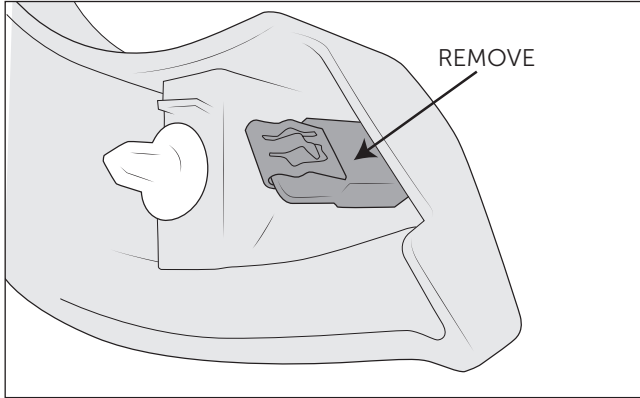

Figure 8
- A. Cut off the W Base Clip from the existing fender flare as needed so the flares will sit flush against the headlamp filler (fig. 8).